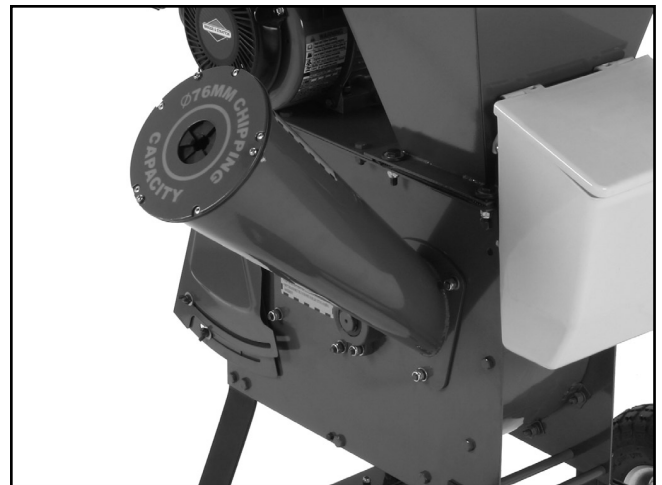

Figure 8. Funnel installation.
7. Place the funnel over the studs in the side of the chipper/shredder and secure it with the remaining flat washers, lock washers, and lock nuts (see **Figure 8**).